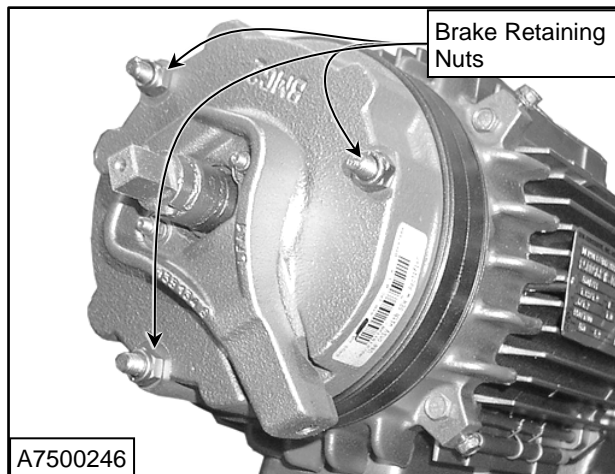
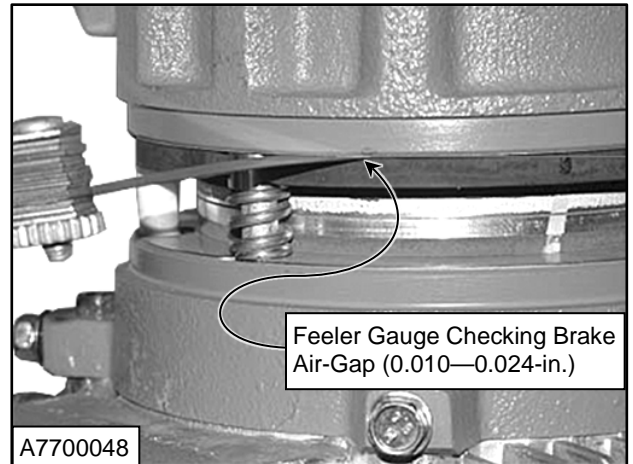

Figure 53
Figure 54
- Using a feeler gauge and a nut driver, adjust the retaining nuts until you achieve the proper air-gap (0.010–0.024-in.). (See Figure 53 and Figure 54)